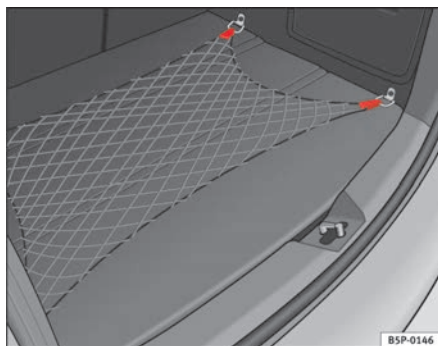

Fig. 108 Retaining net
- Use the fastening rings located on the side of the luggage compartment to attach the retaining net ⇒ **fig. 108**.